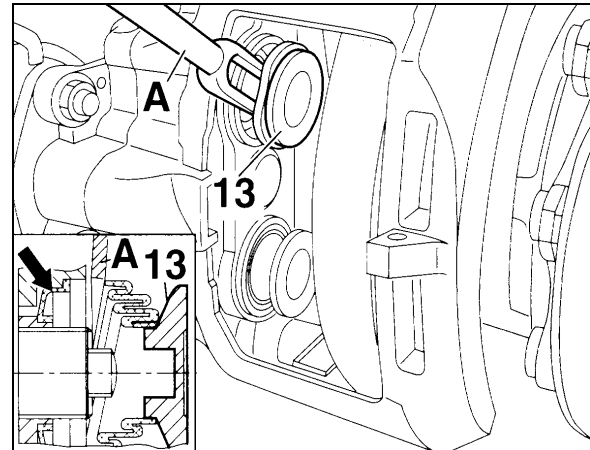

FIGURE 34: RUBBER BOOTS
- a) The rubber boots (13, Fig. 34) should show no damage, check the attachment.